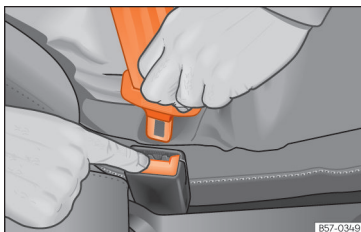

Fig. 24 Release the seat belt's latch plate.
- Press the red button on the buckle »» Fig. 24. The latch plate is released from the buckle.